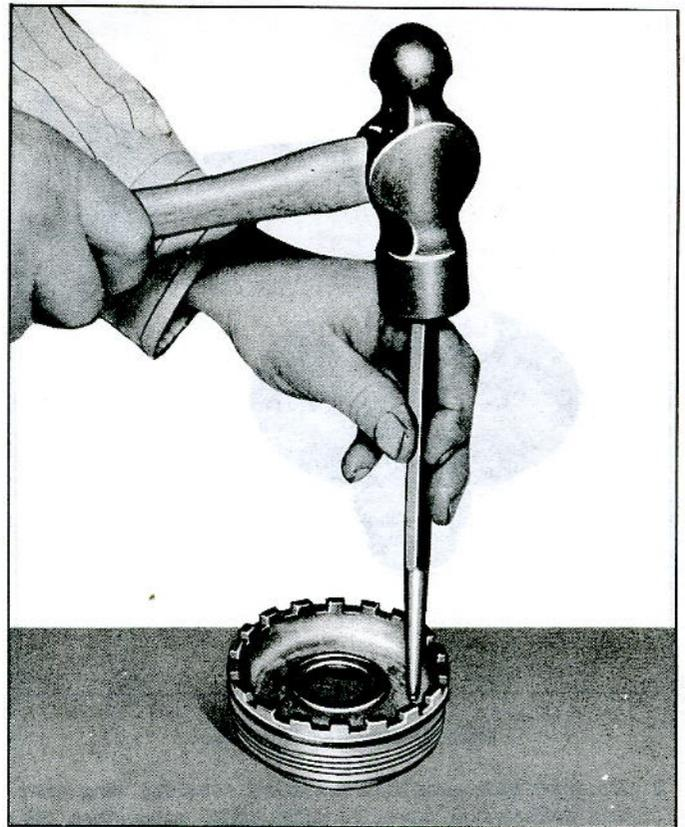

Fig. 27—Sealing Drilled Holes in Adjusting Sleeve with Lead Balls
5. Seal the drilled holes by using lead balls of at least $.225$ " diameter as illustrated (fig. 27). Balls of this type are commercially available for carburetor repair kits.